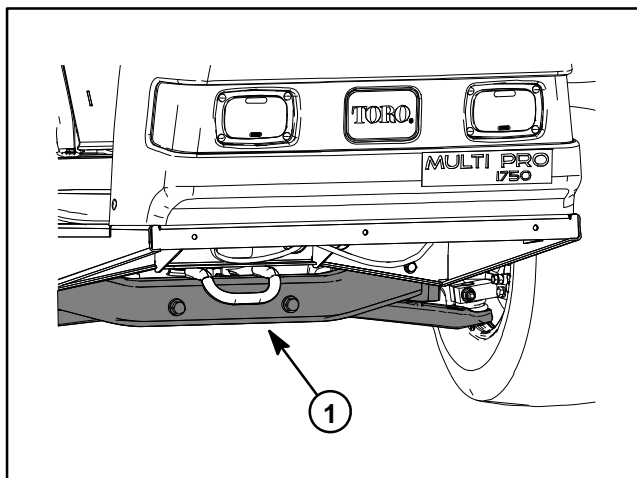

Figure 1
2. Position jack securely under the frame crossbar (Fig. 1).